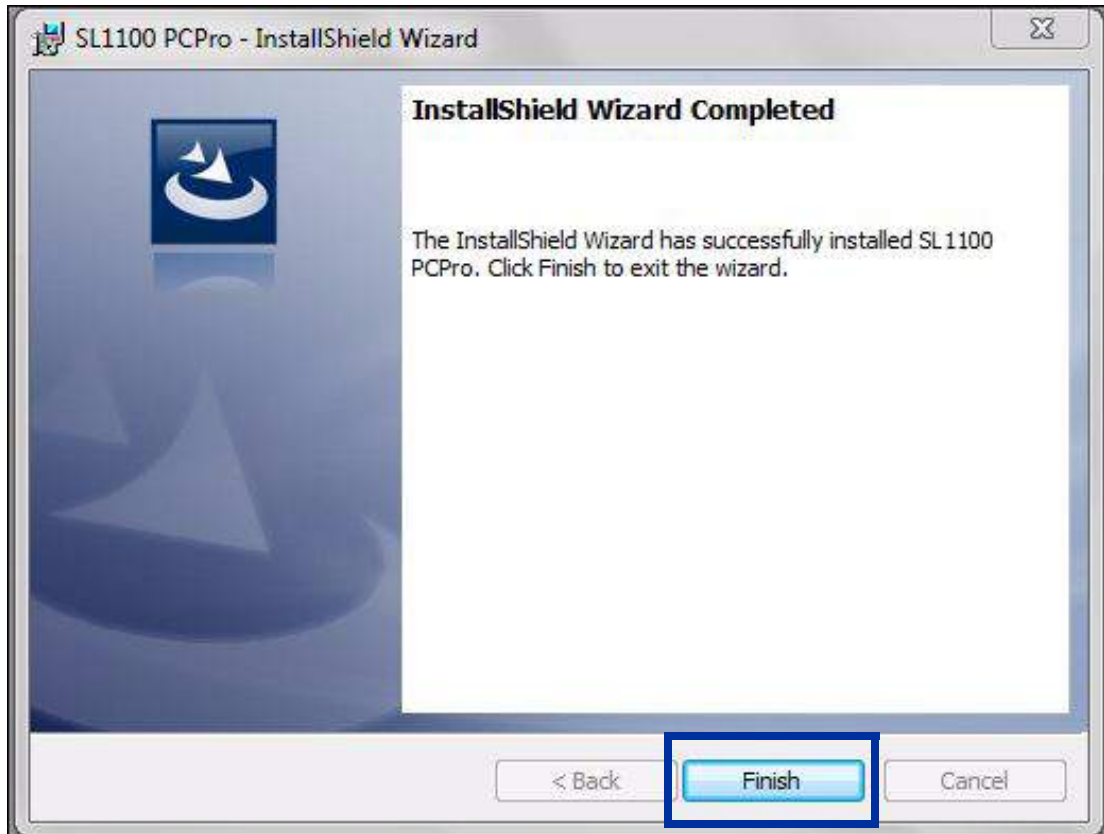

Figure 2-6 InstallShield Wizard Finish Installation
- When the installation is completed, Figure 2-6 InstallShield Wizard Finish Installation is displayed. Click **Finish**.